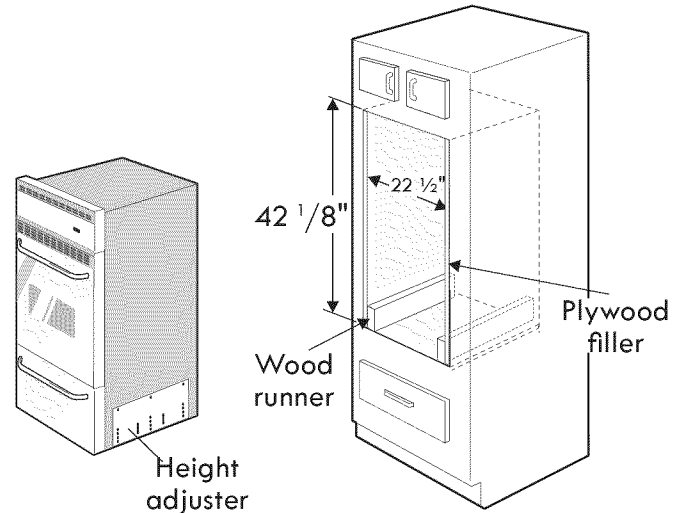

Figure 3
- If height opening is at 42-1/8", lower height adjuster 1" (see section 4) and secure two 2" X 4" X 22" wood runners on each side at bottom of opening (see figure 3).